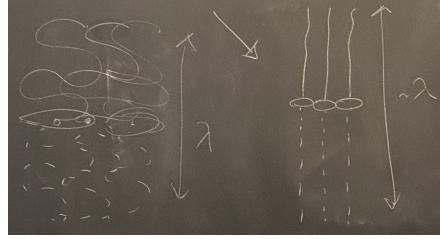

Figure 2.23: Structural changes as diblock copolymers are stretched.
- This also means that the left sketch in Figure 2.23 is mislabeled: It should be $\lambda/2$, which is also the expected length of a single chain in the microphase separated state.
- Enthalpy goes way down when you have linear strands (as on the right side of Figure 2.23), since this puts most monomers closer to each other on average than they are to monomers of the opposite component.
- Similarly, enthalpy goes way up when everything squishes near the IMDS (as on the left side of Figure 2.23). This is because in this case, the interfacial area per chain Σ gets way bigger.